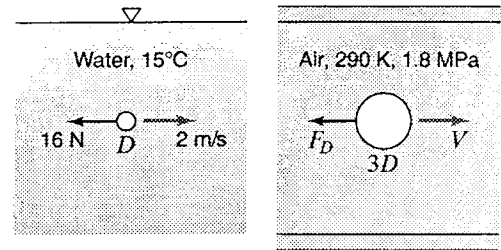

Figure P7.7
- 7.7 *When a submerged sphere moves through 15°C water at 2.0 m/s (Fig. P7.7), the drag force exerted on it is 16 N. In wind tunnel tests with another sphere of three times the diameter the air pressure and temperature are 1.8 MPa abs and 290 K respectively. What must the air velocity be for dynamic similarity, and what will the drag force then be on the larger sphere?*